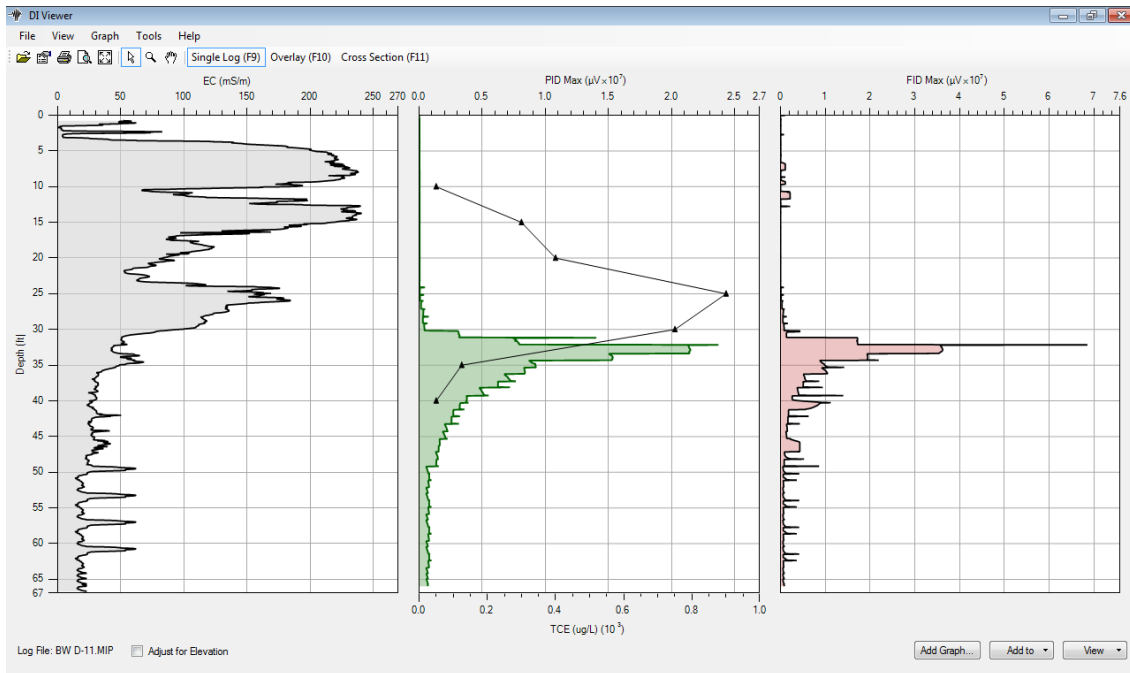

Figure 19: The addition of the custom data set TCE overlaying the PID in green.
7. The new custom data can be added into the display by selecting *Add Graph* to display it or adding a secondary graph along one of the other data series such as the PID (Figure 19).